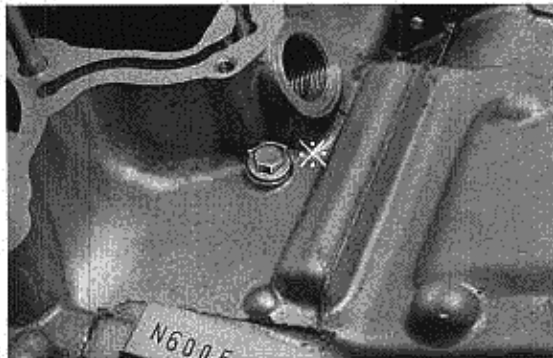

Fig. 4-27
1. Remove the bolt in the upper crankcase located to the left of the camshaft drive chain tensioner. (Fig. 4-27)
- * For five of the 6 mm bolts holding the lower crankcase, located at the transmission, use flat washers. Exercise care not to misinstall these washers. (Figs. 4-27, 28)